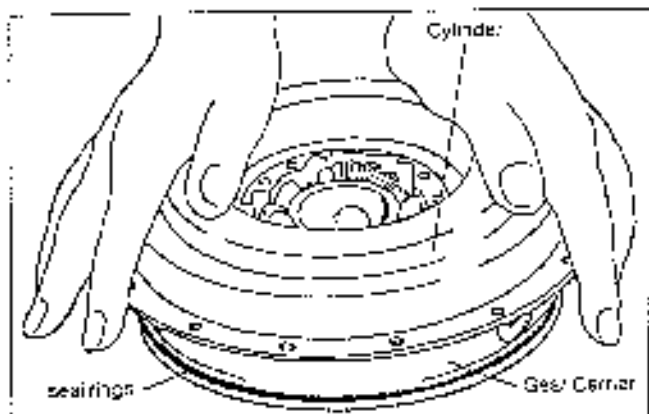

Fig. 25. Pressing Cylinder on Bevel Gear Carrier
- B. With forward side of gear carrier up, press cylinder on by hand. (See Figure 25).